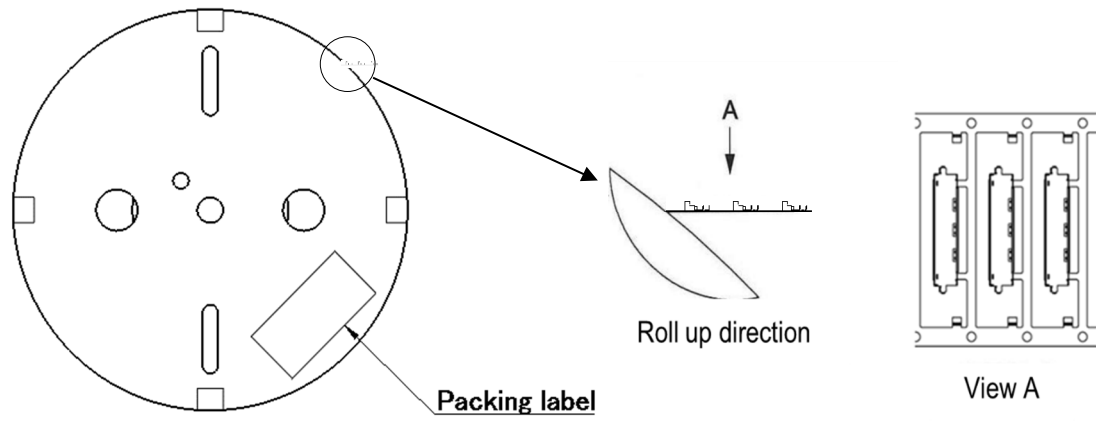

Fig.1
- (1) Coiling of shell to reel follow as shown Fig.1.
- (2) Coiling quantity is 5000 in reel.